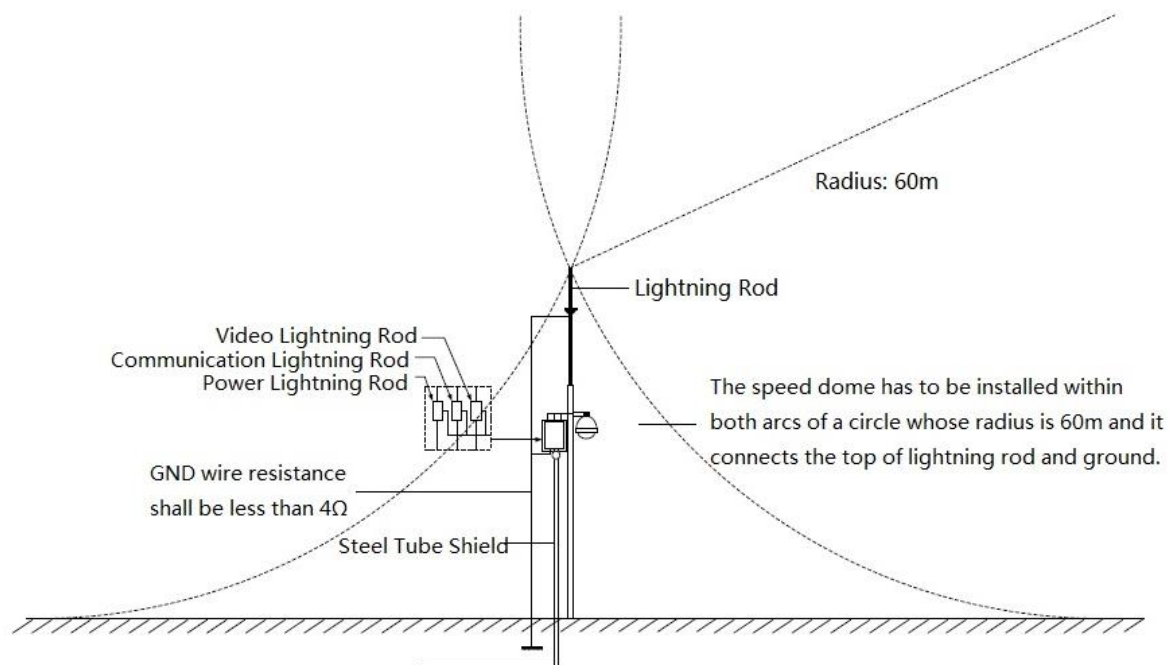

Figure 4-1
- System shall adopt equal-potential wiring. The earth device shall meet anti-jamming and at the same time conforms to your local electrical safety code. The earth device shall not short circuit to N (neutral) line of high voltage power grid or mixed with other wires. When connect the system to the earth alone, the earth resistance shall not be more than  $4\Omega$  and earth cable cross-sectional area shall be no less than  $25\text{ mm}^2$ . See Figure 4-1